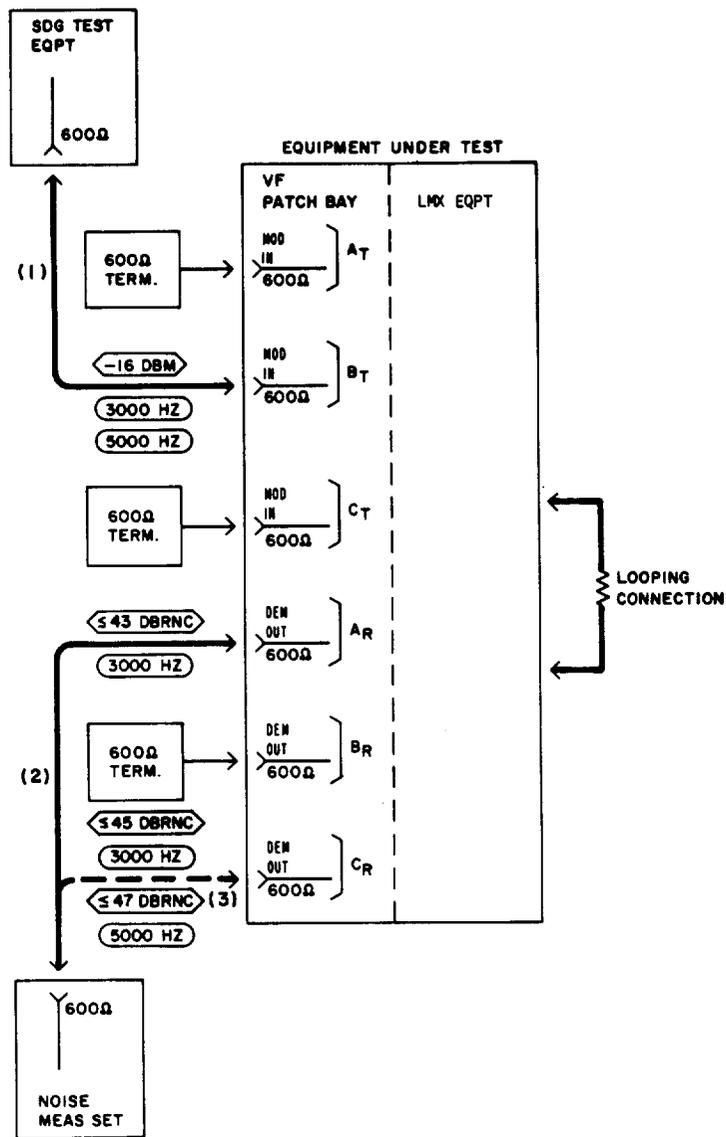

Fig. 11—Patching Diagram—Interchannel Crosstalk Test
12	Insert a 262B plug (600-ohm termination) in the MOD IN jack for Channels A _r and C _r in Test A (Table G and Fig. 11) of the channel bank under test.
13	Connect the STE to the MOD IN jack for Channel B _r [patch (1), Fig. 11].
14	Insert a 262B plug in the DEM OUT jack for Channel B _r (Fig. 11).
15	Connect the NMS to the DEM OUT jack for Channel A _r [patch (2), Fig. 11].
19	Remove patch (2), Fig. 11.
20	Connect the NMS to the DEM OUT jack for Channel C _R [patch (3), Fig. 11].
27	Remove patches (1) and (3), Fig. 11.